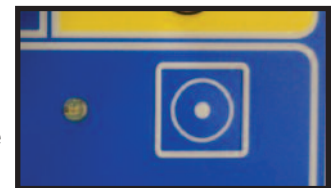

Figure 6.1.2-1: System Power On Push Button
3. Press the System Power On Push Button (see Figure 6.1.2-1) on the Operator's Console control panel.
4. Press the System Power On Push Button on the control panel at the Operator's Console. (See Figure 6.1.2-1.)
3. Press the System Power On Push Button on the control panel at the Operator's Console. (See Figure 6.1.2-1.)